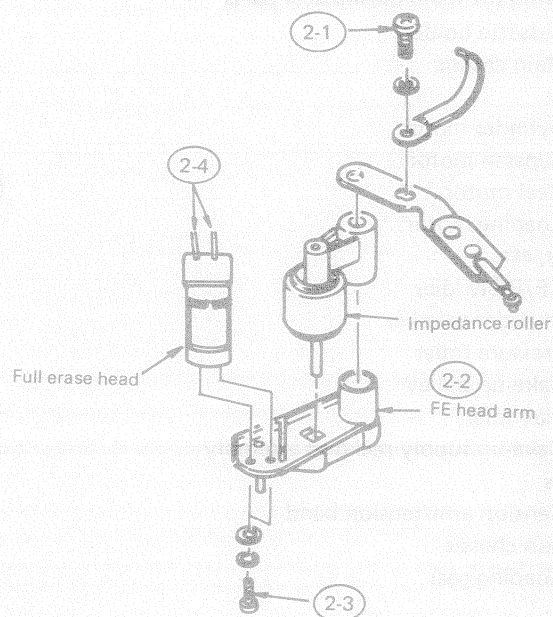

Fig. 19
- 2) FE head arm (Fig. 19)
- 3) 2 screws (Fig. 19)
- 4) Unsolder 2 leads (Fig. 19)